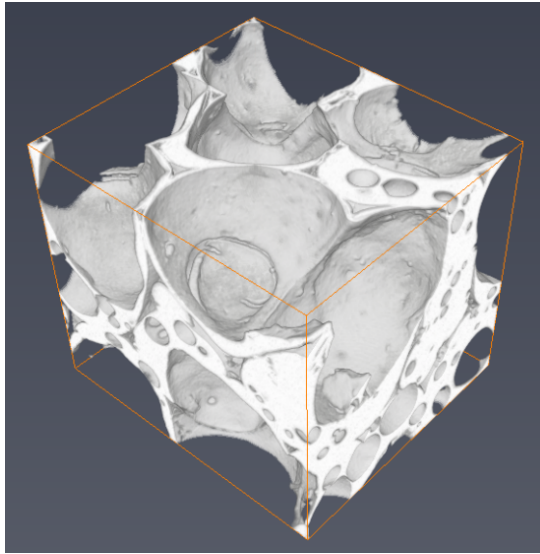

Figure 18.3: Original Data Display
1. Load the file `data/tutorials/PNM/Sponceram.am` and display it using the *Volume Rendering* module. Set the *Colormap* port max to `4590` to have a better rendering (see Figures 18.3 and 18.4 with colormap configured to hide the void phase).